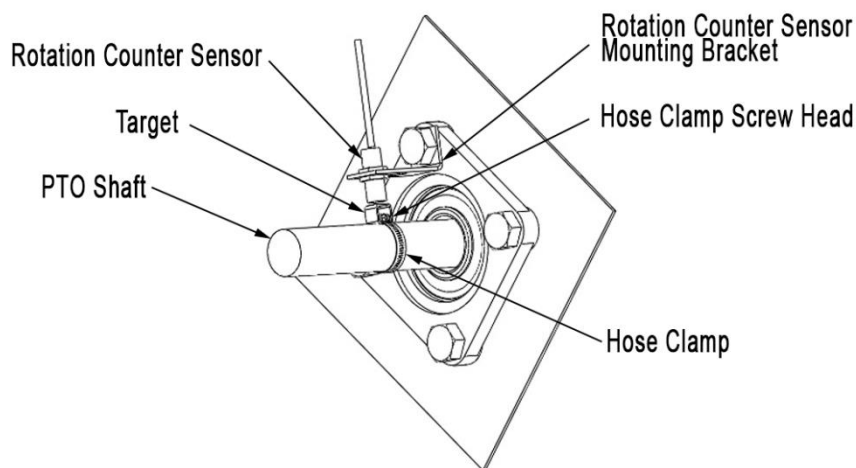
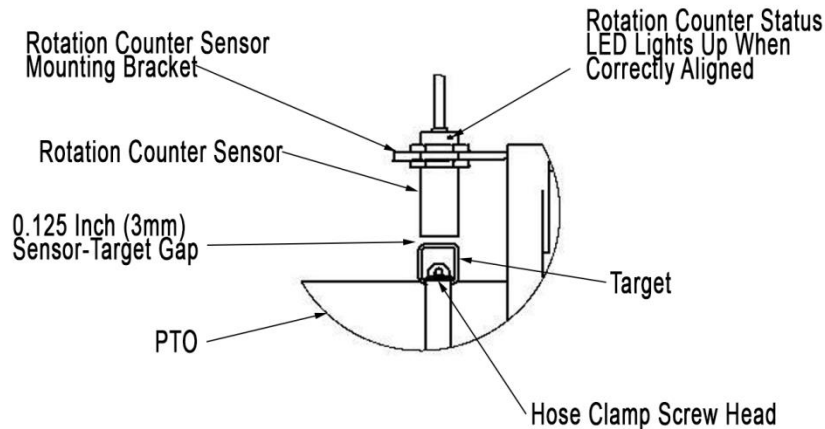

Figure 2: Target Installation
Figure 3: Rotation Counter Sensor Adjustment
3. Attach target, adhesive side down, securely to PTO shaft with hose clamp as shown in Figure 2. Place hose clamp screw head inside target as shown in Figures 3.
4. Attach Rotation Counter Sensor Mounting Bracket as shown in Figure 2.
5. Adjust sensor to 1/8" (3mm) from target as shown in Figure 3.
1. With power applied to the circuit the Rotation Counter Status LED, as shown in Figure 3, will turn "On" when the Rotation Counter Sensor is aligned with the steel target.
2. Continue to slowly turn the target away from the Sensor. If the sensor LED stays "On", move the Sensor away from other metal objects. The target should light the Sensor Status LED **only** wither when PTO is spinning, or when the target is directly in line with Sensor as shown in Figure 3.